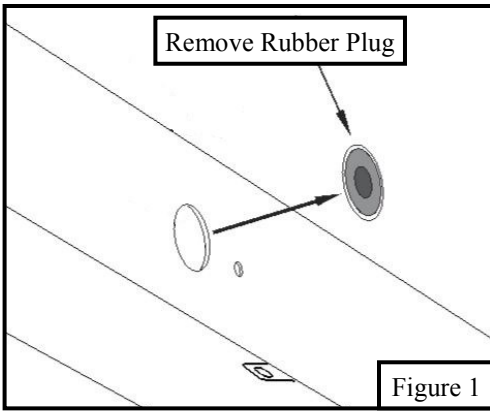
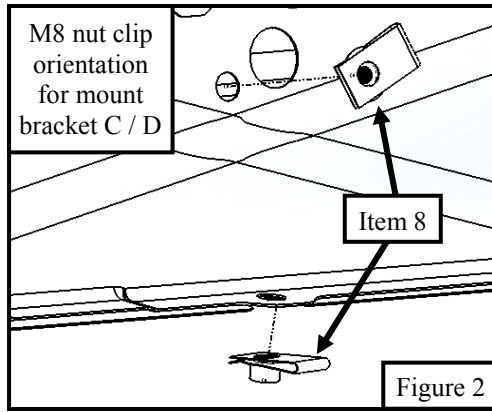
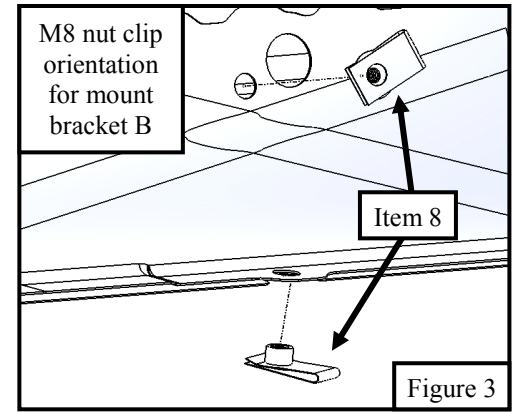

Figure 1
Figure 2
Figure 3
2. Locate on each rocker panel the black rubber plugs and remove them. See **Figure 1**. Install the M8 nut clips (Item 8) as shown in **Figure 3** for bracket B (Item 2). For the bracket C (Item 3) and bracket D (Item 4) mount location, install M8 clip as shown in **Figure 2**.